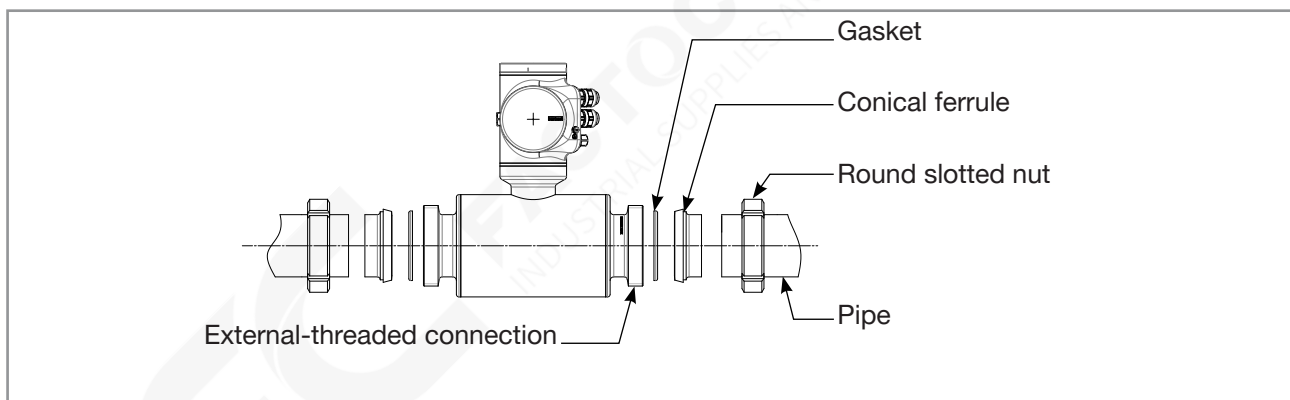

Fig. 19: Mounting order of the accessories
1. Put the round slotted nuts on the pipe. Respect the mounting direction of the round slotted nuts so that they can be screwed on the external-threaded connections of the device. Refer to Fig. 19.